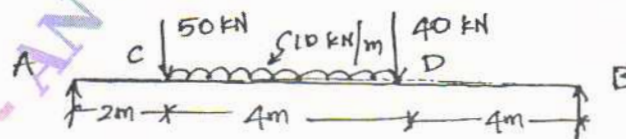

Fig. Q3(b)
- b. Draw bending moment diagram and shear force diagram for the given beam shown in Fig. Q3(b). (14 Marks)